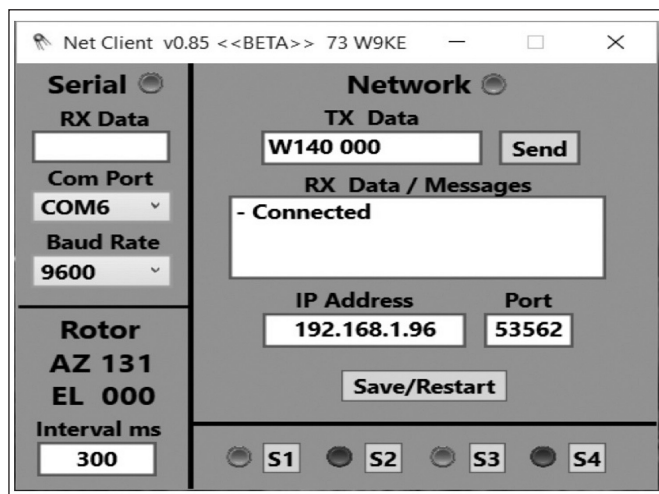

Fig 24.30 — The *Net Client* software connected to an LVP Tracker, showing the control interface for the LVP Tracker and serial communications configuration.
If an LVB Tracker is connected to the Raspi2, the current azimuth (AZ) and elevation (EL) for the rotator are shown in the lower left part of the window in the section labeled “Rotor.” (See Fig 24.30.) This value is updated at an interval shown in the “Interval ms” box.
When the serial port connection is made, the indicator button to the right of the word Serial will turn green. In Fig 24.30, *Net Client* is connected to virtual port COM6 at 9600 baud and COM7 is connected to the tracking program. This allows the software to send messages to the rotator.